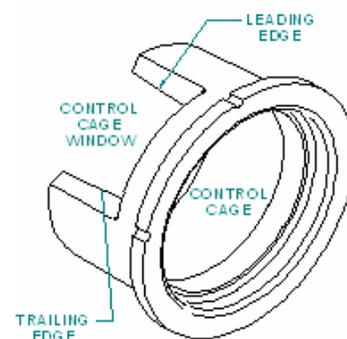
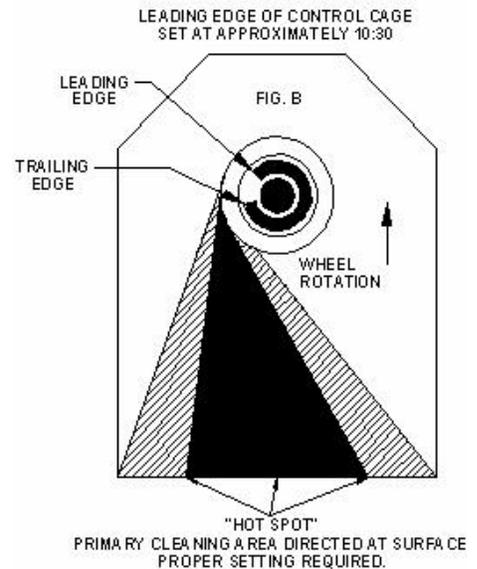

Figure 6.1.1
Figure 6.1.2
3. **Abrasive Size** - The size of the abrasive will affect the blast pattern. Different sized abrasives have different masses that will alter the "hot spot" setting. See Figure 6.1.2 on page 36.
The initial setting of the control cage for a machine that has the blast wheel rotating in a counter-clockwise direction is between 8:30 and 10:30. The leading edge should be at 10:30. Refer to Figures 6.1.1, 6.1.2 and 6.1.3. Place a 3/16" or 1/4" steel plate beneath the machine and blast with the abrasive control valve at full open for about 45 seconds. Do not move the machine during this test. The resulting "hot spot" should be centered as it appears on Figure 6.1.2. If the "hot spot" is too far to the left, rotate the control cage in a counter-clockwise direction about 1/4" and recheck the blast pattern on the test strip. Small changes in the rotation of the control cage can move the "hot spot" "significantly. If the "hot spot" is too far to the right, rotate the control cage in a clockwise direction. Once again, move the control cage in small increments until the blast pattern ("hot spot") is centered.
2. **Control Cage Setting** - See Section 6, "Setting the Correct Blast Pattern", Figures 6.1.1, 6.1.2, and 6.1.3